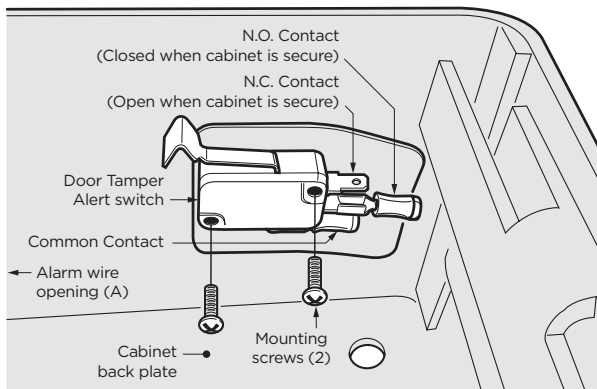

Figure 2: Upper Right Inside Corner
4. **Door Tamper Alert switch:** Align door Tamper Alert switch to mounting holes on the inside top, right side of cabinet as shown in Figure 2. Secure door Tamper Alert switch with the provided screws.